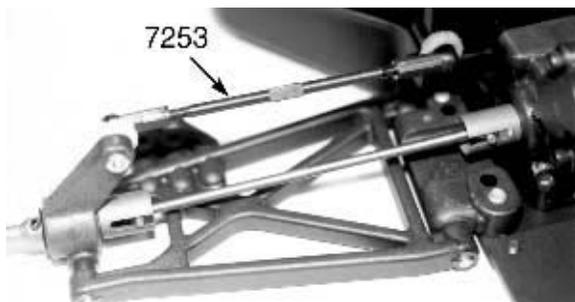

Fig. 110
end dog bone pin with the slots in the stub axle. When installed everything should look like the top part of fig. 110.
(6) Now that all the parts are ready we can now snap on the two #7253 rear tie-rod turnbuckles. Starting on the left side, snap one end of the turnbuckle onto the ball end mounted on the left side of the rear bulkhead. (7) Making sure the axle parts are still in the slots, snap the outer end of the turnbuckle onto the ball end on the left hub carrier. (8) Fig. 110 shows the left side correctly installed. You will most likely need to use pliers to snap on the ball cups. Now install the other turnbuckle on the right hand side still making sure the axle parts are in place.